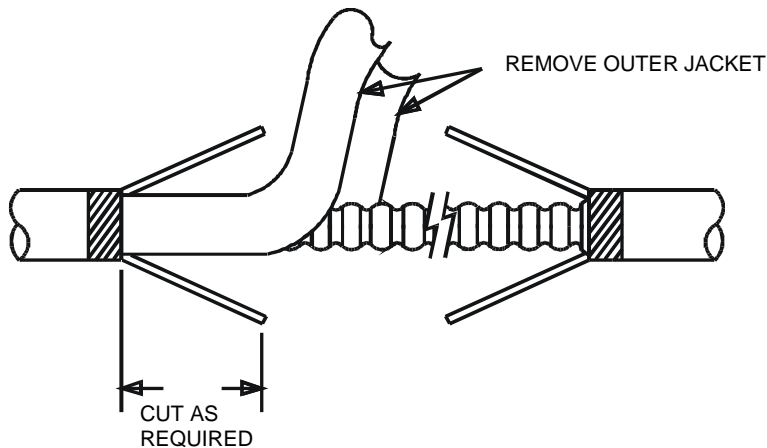

Figure 7 - Remove the outer jacket from the corrugated metal.
6. Use a pair of diagonal pliers to separate the outer jacket from the corrugated metal. Peel back and remove both sections of the outer jacket (Figure 7).
7. Consult the closure instructions to determine the length of strength wire that is required to clamp the cable in the closure. Cut each strength member at the required length (Figure 7).
8. Carefully spread the strength members to gain access to the corrugated metal (Figure 7).